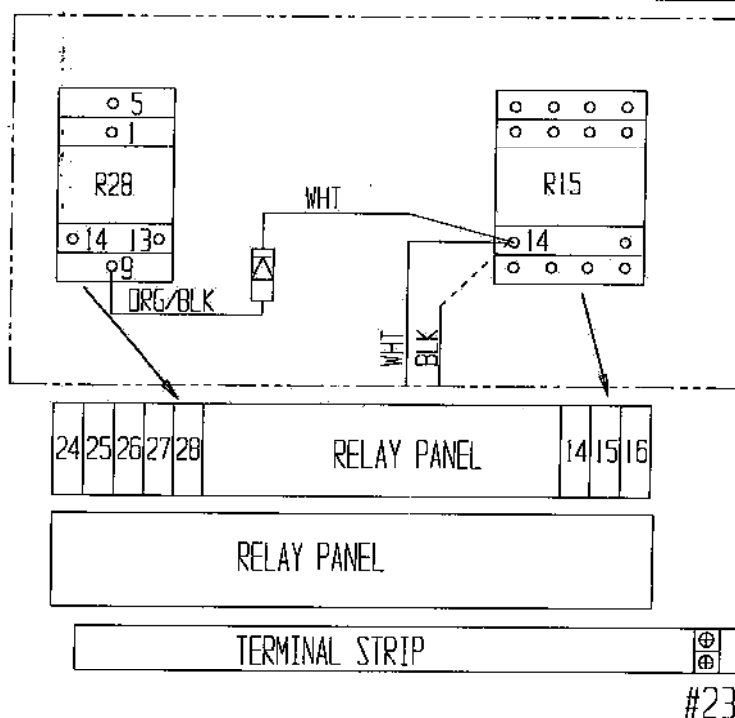

Figure 5
7. Locate R15 (Lower Control Box Assembly) and disconnect black wire from Terminal #14. Leave white wire connected. Insulate black wire and tie it back out of the way. See Figure 5.
9. Locate R28 (Lower Control Box Assembly) and connect orange/black end of Diode to Terminal #9. Leave all existing wires on R28. See Figure 5.
10. Connect white end of Diode Assembly to Terminal #14 of R15. See Figure 5.